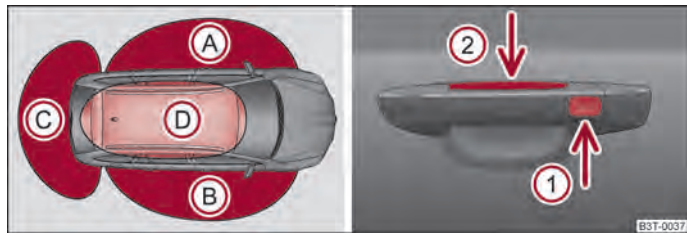

Fig. 14 KESY: Designation of the areas and unlocking/locking the vehicle
- Sensor on the outside of the door handle for the front door ① ⇒ fig. 14 - serves for locking the vehicle,
- Sensor on the inside of the door handle for the front door ② ⇒ fig. 14 - serves for unlocking the vehicle.
If a valid remote control key is located in the area ① ⇒ fig. 14 or ② of the vehicle, it is possible to unlock the vehicle via the relevant door of the area in which the key is located. This means, if the key is located in the area ①, you can unlock the vehicle from the handle on the front left door. If the valid key is located in the area ②, it is possible to unlock the boot lid.
- If you hold the door handle of the front door or cover the sensor ② ⇒ fig. 14 with the whole palm of your hand, the vehicle is then unlocked. If you cover the sensor ② and at the same time the sensor ① when unlocking, the vehicle is not unlocked.
After locking the vehicle with the aid of the sensor ① ⇒ fig. 14, it is not possible to unlock the vehicle with the aid of the sensor ② for 2 seconds. Thus, it is possible to check if the vehicle is locked by pulling on the handle.
- When locking/unlocking the vehicle using the sensors ① ⇒ fig. 14 or ② do not use gloves or other objects which might prevent the hand from coming into contact with the sensor directly.
If the key, which was used to lock the vehicle, remains in the vehicle in the area ① ⇒ fig. 14 after locking and closing all of the doors including the boot lid, the protection against inadvertently locking the key in the vehicle is activated and the vehicle unlocks itself again.
If the vehicle is not unlocked within 60 hours, the sensors ① ⇒ fig. 14 and ② in the handle of the front passenger's door are automatically deactivated. For reactivation, one of the following conditions must be met:
- Unlocking the driver's door with the aid of the sensor ② ⇒ fig. 14,
If the vehicle is not unlocked within 90 hours, the sensors ① ⇒ fig. 14 and ② in the handle of the driver's door are also automatically deactivated. For reactivation, one of the following conditions must be met:
If you hold your finger on the sensor ① ⇒ fig. 14 for more than 2 seconds while locking the vehicle, the opened windows and the panoramic sliding roof are closed. If you lift your finger off the sensor ①, the closing process is interrupted. If you touch the sensor ① again, the closing process of the windows and the panoramic sliding roof continues.